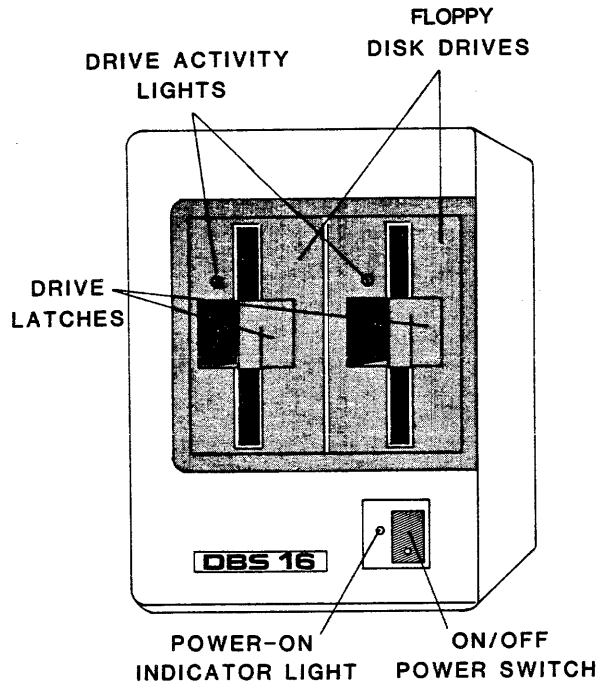

Figure 4-2. Floppy Disk Drive: Representative Illustration
2. Open the floppy disk drive latch (see Figure 4-2).